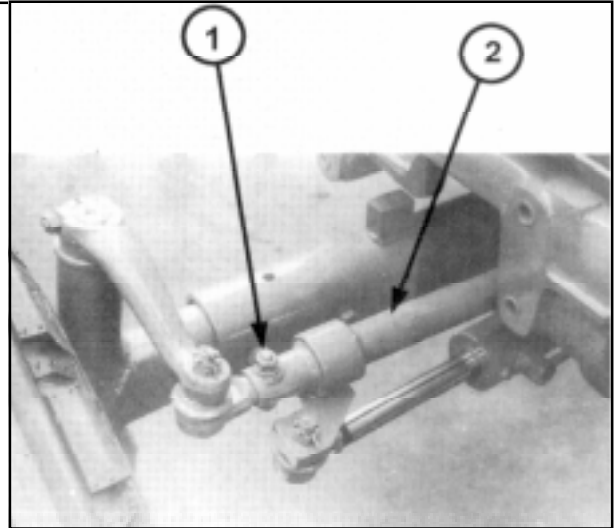

Figure 5
3. Remove the right-hand end of the track rod from the spindle arm. Figure 5.